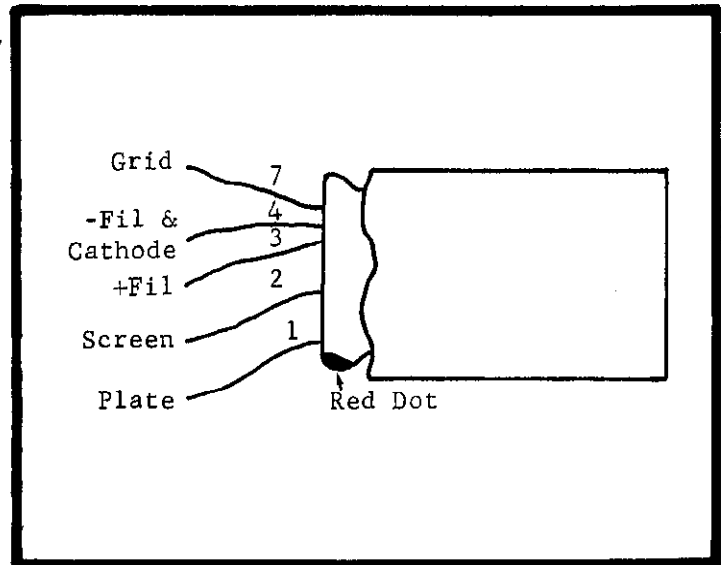
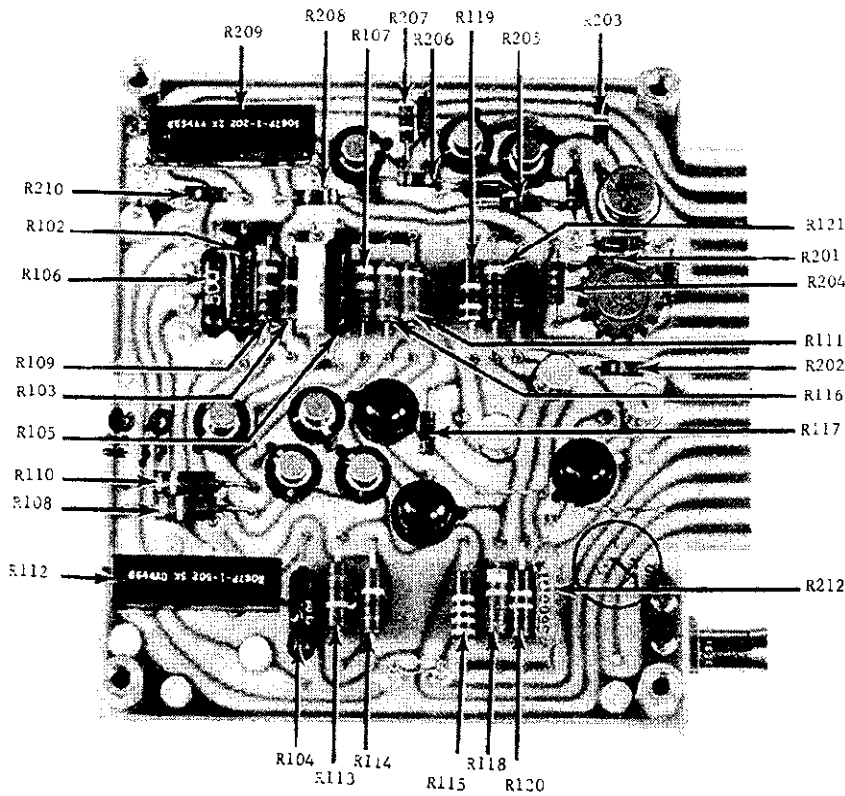
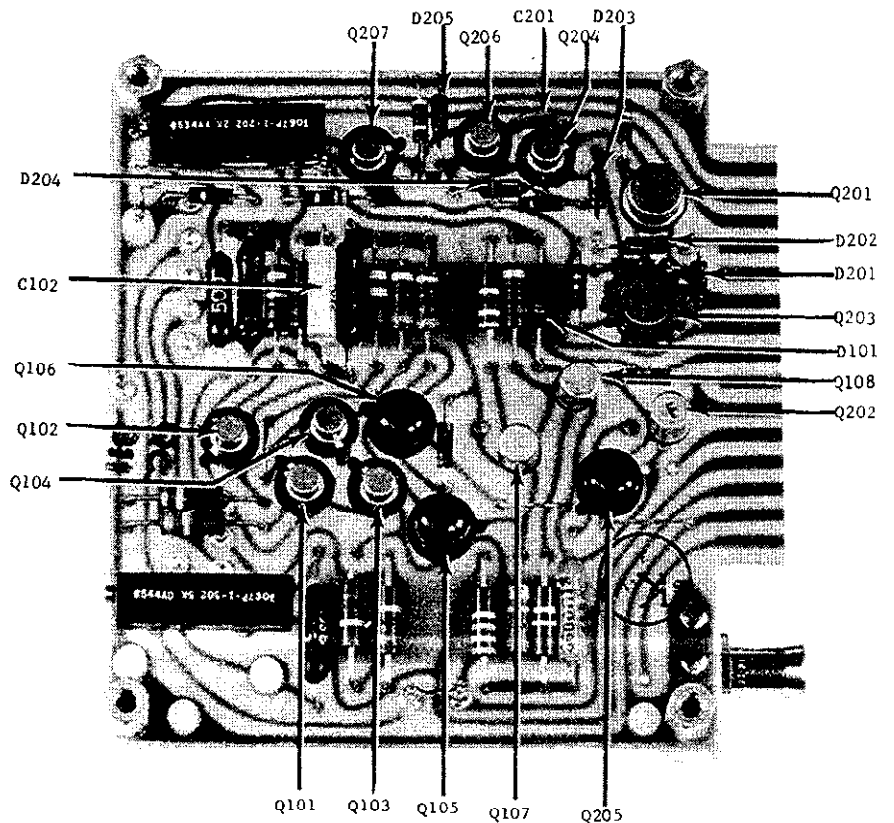
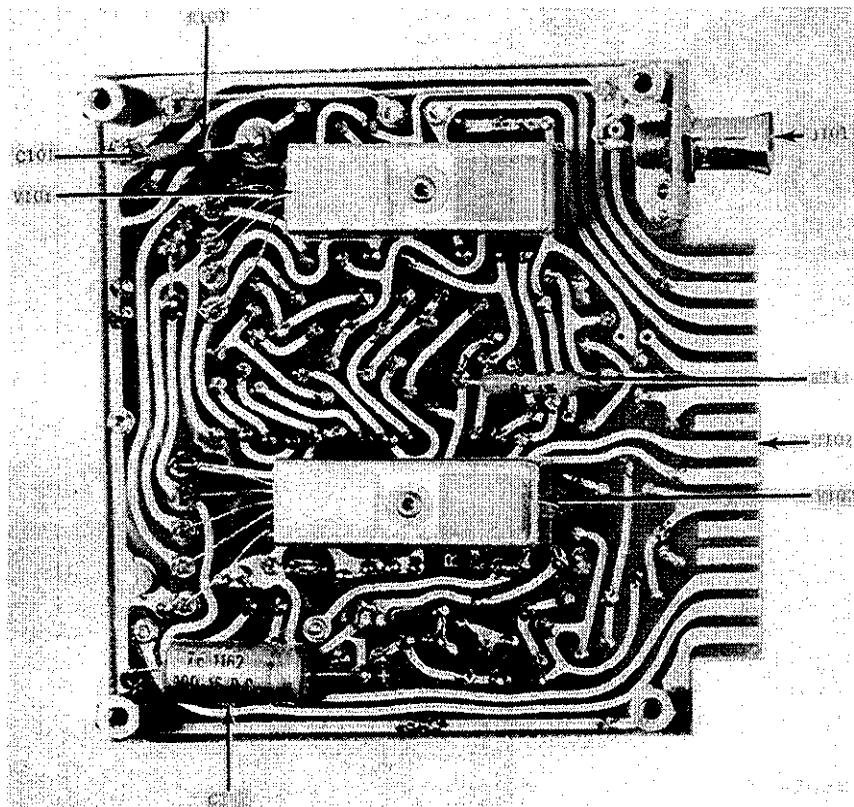

FIGURE 21. Base Connections for Electrometer Tube.
FIGURE 22. Resistor Locations on PC-110, Model 300. For component locations, see Figure 23. For components on other side of PC-110, see Figure 24.
FIGURE 23. Component Locations on PC-110, Model 300. For resistors see Figure 22. For components on other side of PC-110, see Figure 24
FIGURE 24. Component Locations on PC-110, Model 300. For components on other side of PC-110, see Figures 22 and 23.
1. Disconnect jumpers F-G and L-M (Figures 6 and 7) to remove potentiometer R112 (Figure 22) from the circuit.
e. If either regulator is not operating (zero regulation), the series transistor is probably shorted and should be replaced. For the positive regulator, replace Q203 (Figure 23). For the negative regulator, replace Q202 (Figure 23).
3. Measure the voltage at the wiper of potentiometer R209 (Figure 22). The voltage should be about 9 volts. If +13.5 volts is present, then resistor R210 (Figure 22) is either faulty or it is not connected. If 0 volt is present then resistor R208 (Figure 22) is either faulty or it is not connected. If neither +13.5 volts nor 0 volts is present and if the voltage is not about 9 volts, then potentiometer R209 is faulty.
4. If the voltage is about 9 volts, adjust potentiometer R209 a few turns to make sure that this voltage varies. Then check the base voltage of transistor Q206 (Figure 23). This voltage should be between 8.55 volts and 9.45 volts. If it is not, then either resistor R205 (Figure 22) or diode D204 (Figure 23) is faulty. Next, check the collector of transistor Q206 to see if the voltage here varies when potentiometer R209 is adjusted. If it does not vary, then either transistors Q206 or Q207 or both are faulty.
5. Finally, check the voltage at the collector of transistor Q204 (Figure 23) and make sure that there is a response to adjusting R209. If there is no response at the
For the negative regulator, repair is easiest by replacing transistors Q202 and Q205 (Figure 23).
b. Connect the Model 153 between the plates (Figure 21) of V101 and V102 (Figure 24). Adjust the zero potentiometer, R112 (Figure 22), for null. If null cannot be reached, check the tubes, the zero control circuit, and transistors Q101 and Q102 (Figure 23). Check the transistors by replacing them and adjusting for null again. If null is now reached, replace the transistor pair with a new pair.
c. Check the next stage by connecting the Model 153 across the emitters of transistors Q101 and Q102 (Figure 23) and adjusting the zero potentiometer, R112 (Figure 22), for null. If null is not reached, check this stage and the base circuit of the next stage. Check the base circuit by removing transistors Q103 and Q104 (Figure 23) and again adjusting for null. If null is now reached, replace Q103 and Q104 with a new pair.
d. Check the next stage by connecting the Model 153 across the collectors of Q103 and Q104 (Figure 23) and adjusting for null. If null is not reached, check this stage and check for shorts in the circuit of Q105 and Q106 (Figure 23).
e. Check transistors Q105 and Q106 by measuring the potential of the collector of Q105 with respect to ground. Note that as adjusting potentiometer R112 (Figure 22) carries the other stages through null, the voltage at the collector should swing from at least -11 volts to at least +11 volts. If this does not occur, disconnect the output stage by removing transistor Q107 and resistor R119. Now repeat adjusting potentiometer R112. If the collector of Q105 still does not swing ± 11 volts, replace transistor Q105 or Q106 or both. If transistors Q105 and Q106 were operating properly, then the defect is in the output stage and replace transistor Q107 or Q108 (Figure 23) or both.